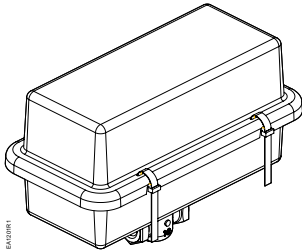

Figure 3. Installed Weather Shield.
8. Align holes in the weather shield halves' flanges and secure with four cable ties. See Figure 3.